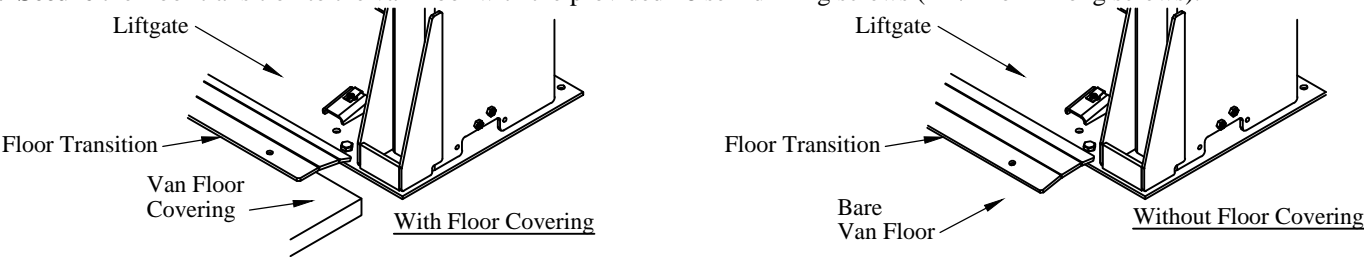

Figure 23: Floor transition.
- 1. **Position** the floor transition with one side on the liftgate and the other side on the van floor (Figure 23).